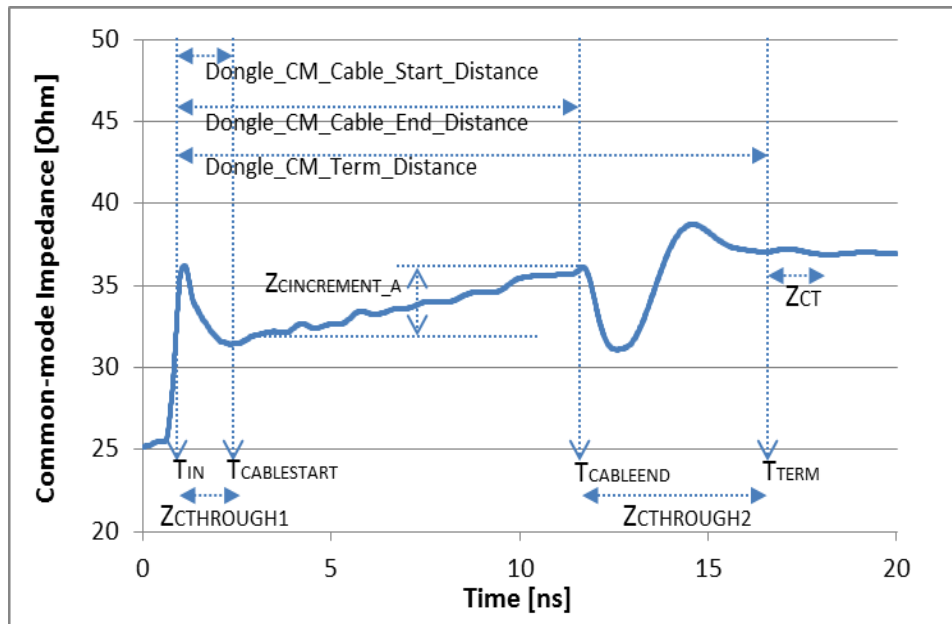

Figure 17 : Common mode impedance Test Symboly
9. Using figure17 as a guide line to measure dongle common-mode impedance